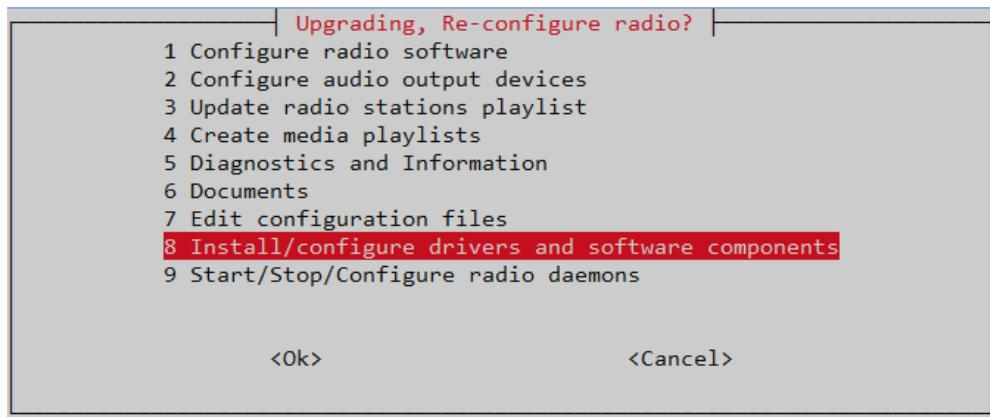

Figure 192 The radio-config menu
- Select option **6 Documents and Tutorials** from the **radio-config** menu shown in *Figure 192 The radio-config menu* on page 136.